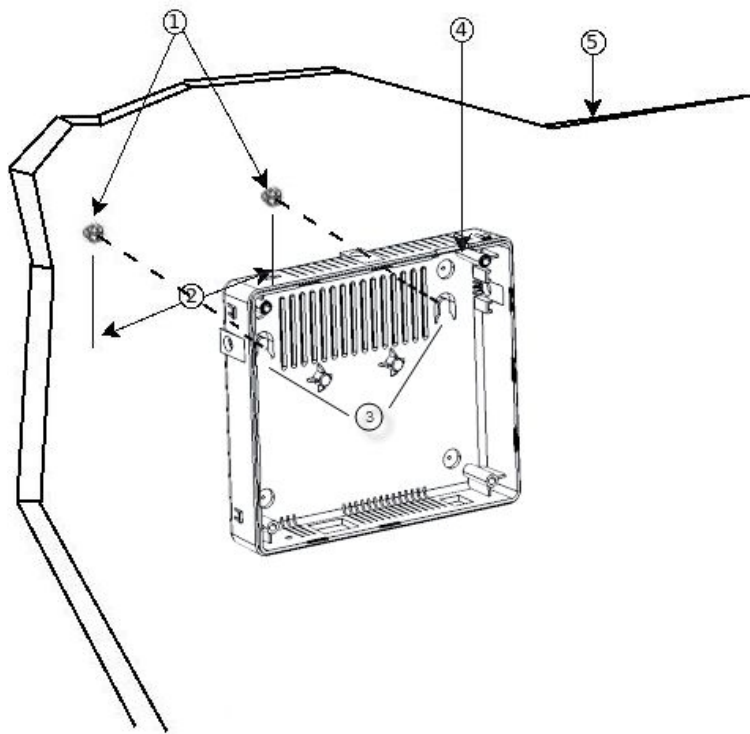

Fig. 9: Wall-mounting features on the Teldat Connect-4GE router
**Step 2** Hang the router on the screws. This is the appropriate orientation for a safe use. (See Figure 9.)